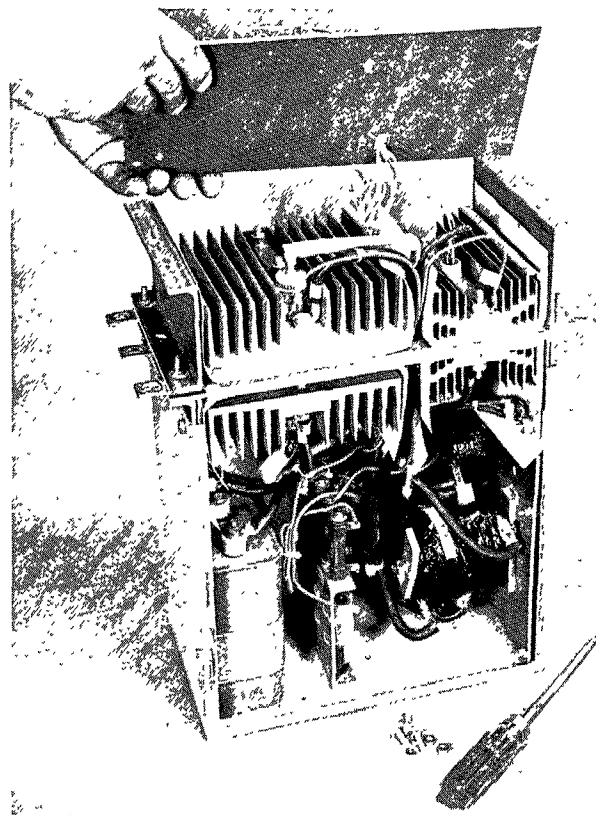

FIGURE 25
3. After locating the defective Press-Pak Main SCR cell (ISP and ISN) follow the instructions for Press-Pak Main SCR cells, 40-60 KVA, 230V AC units. See Fig. 25.
4. After locating the defective stud mounted commutating SCR cell (CSP and CSN) follow the instructions for stud mounted commutating SCR cells, 10-30 KVA, 230V AC or 460V AC units. See Fig. 25.